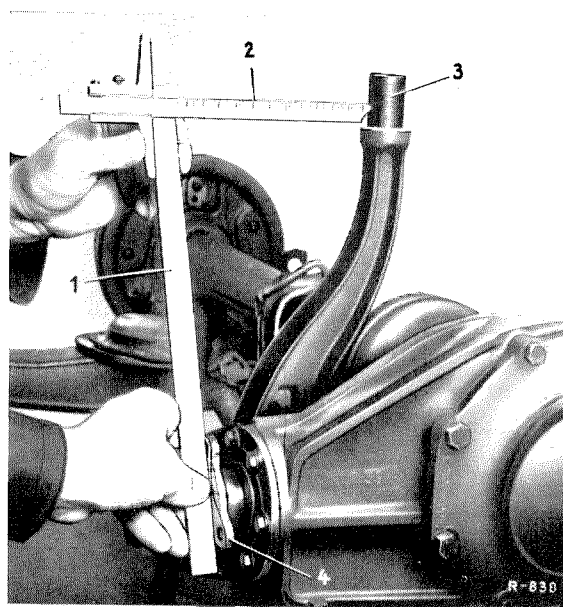

Fig. 35-5/8
20 Fit rear rubber ring (9) in between washer (8b) and supporting tube eye (Fig. 35-5/5).
21 Adjust reference distance "a" between the face of the joint flange and the carrier (1) for rear axle suspension (for dimension refer to Job No. 35-0) (Fig. 35-5/7 and Fig. 35-5/8).